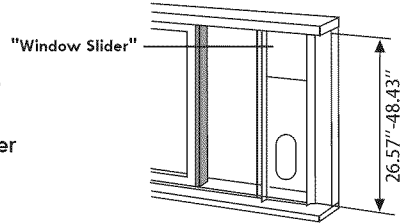
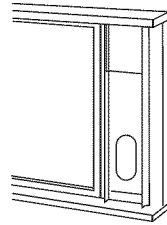

Fig.13
Fig.14
2. Place the window slider onto the adhesive foam seal (see Fig. 13). Adjust window slider height according to the instructions on page 8.
3. Cut another length of adhesive foam seal and attach it to the window sash (see Fig. 13). Close the window sash securely onto the window slider (see Fig. 14).